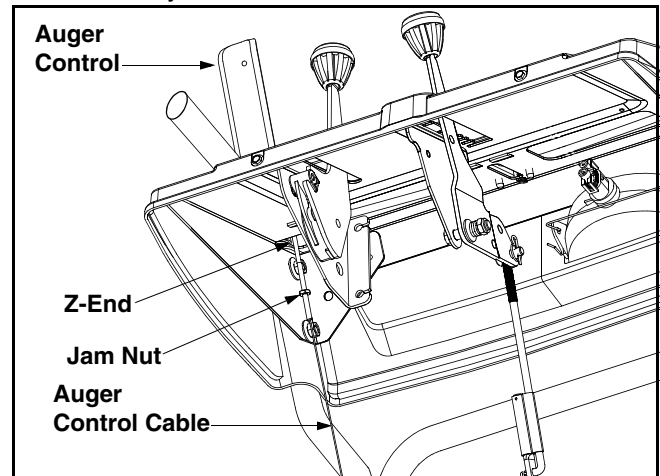

Figure 7
- Retighten the hex jam nut. See Figure 7.
- Loosen the jam nut on the drive cable. Adjust the cable as necessary. Refer to Figure 7.